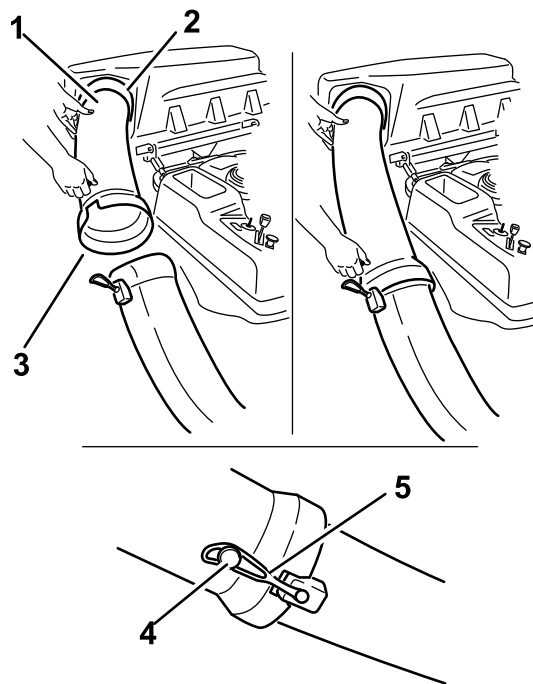

Figure 18
- Slide the curved end of the discharge tube into the opening in the bagger top (Figure 18).
- Slide the flared end of the discharge tube over the end of the chute. Move the rubber retaining strap on the chute snaps over the peg on the discharge tube to secure it (Figure 18).